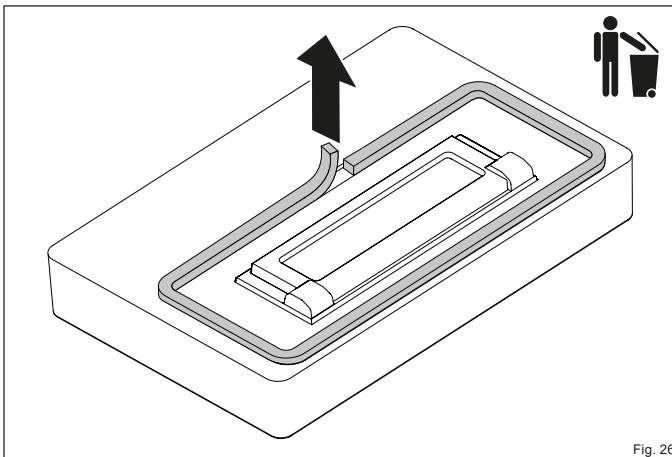

Fig. 26
- ▶ Pull the old seal out of the rail and dispose of it in the waste (Fig. 26).